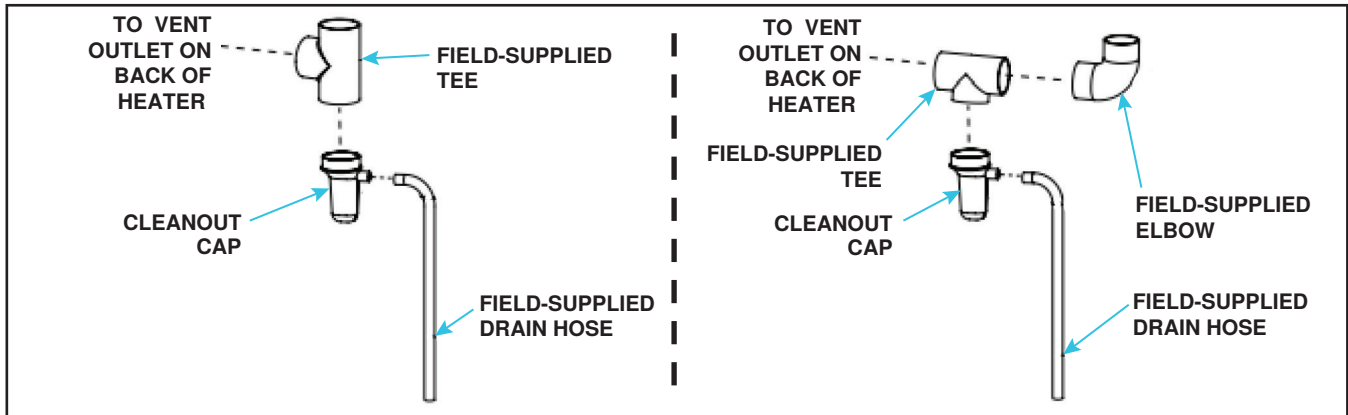

Figure 19. Installing Condensate Drain (Unit Sizes 55–110)
1. Install vent condensate drain on unit sizes 55–110 using PVC cleanout cap/trap assembly provided with heater (see Figure 19):